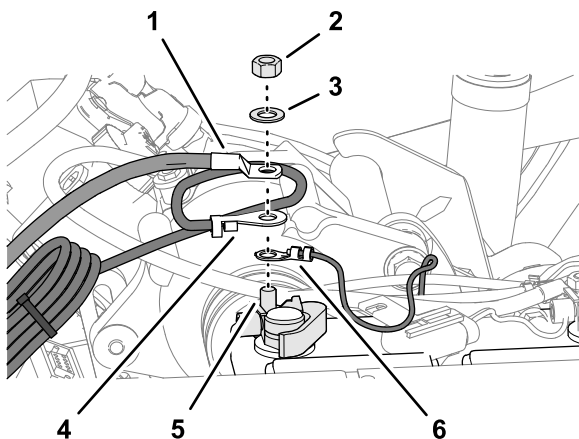

Figure 95
4. Assemble the following wire and cable terminals onto the threaded post of the negative battery terminal (Figure 95) in the following order: